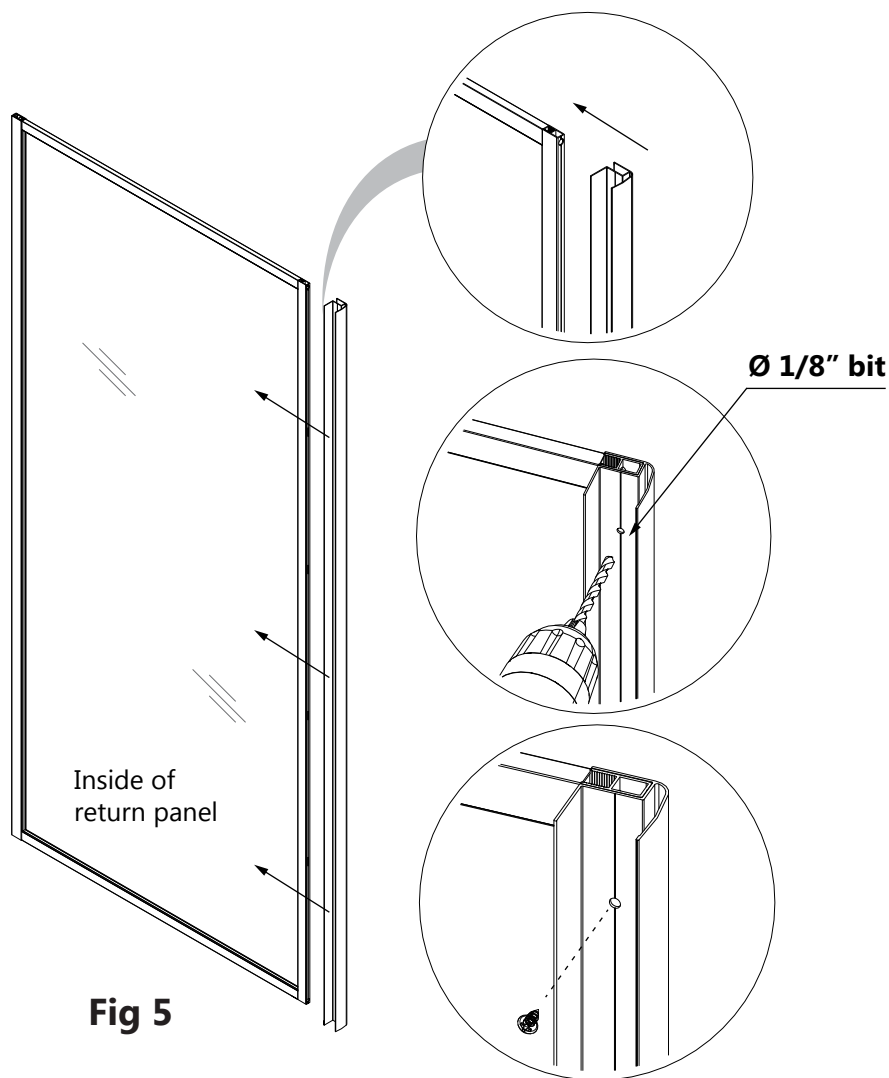

**Fig 4**
**USE THE FIRST SECTION OF THIS INSTALLATION MANUAL TO ASSEMBLE AND INSTALL THE DOOR SECTION. (Fig 4)**
**4. Move the Door assembly onto the threshold and slide the Stationary glass profile into the **Wall profile (#01)**. (Fig 4)**